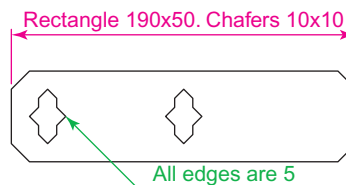

Fig. 5.23 Example – Move – drawing
1. Construct the drawing Fig. 5.23.